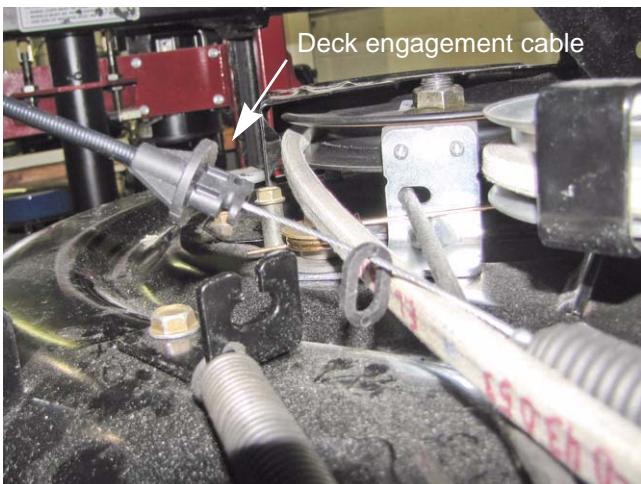

Figure 8.46
7. Pull back on the deck engagement cable and lift it up and out of the slot in the cable bracket. See Figure 8.46.